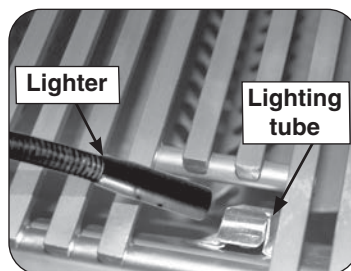

Fig. 29-2 Manual lighting via lighting tube
2. Insert either a burning long-barrel butane lighter or a burning long-stem match through the cooking grid opening to the top of the lighting tube. (Fig. 29-2). For backburners or infrared burners, hold the flame against the surface of the backburner/infrared burner. For charcoal burners, hold the flame near the burner.
4. If the burner does not light within five (5) seconds of turning the control knob, **immediately depress the knob and turn the valve to OFF**. **WAIT FIVE (5) MINUTES** before repeating steps 2 through 4 of the MANUAL LIGHTING instructions.